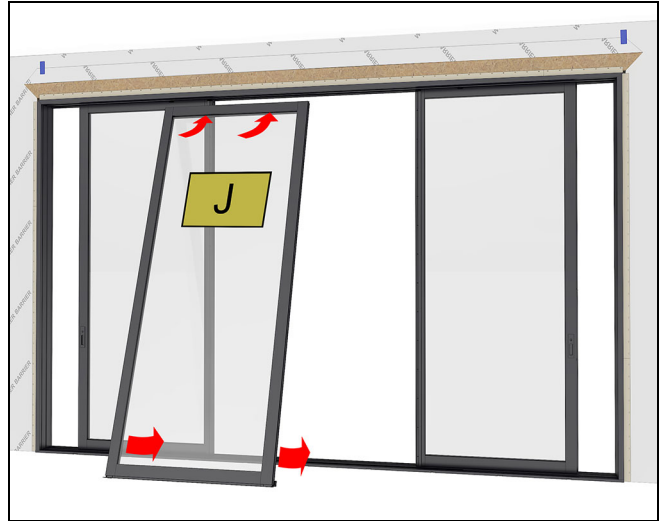
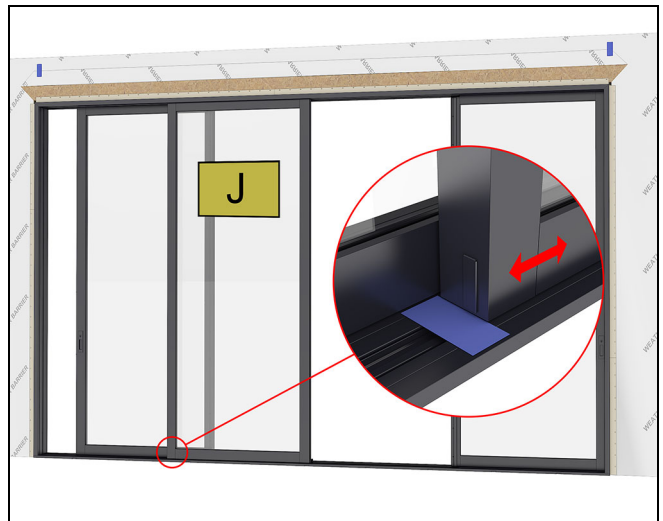

Figure 164 XOOX
Figure 165
8. Install the (J) stationary panel. Line up the left outside edge of the panel with the left mark made on the sill earlier in step 3 on page 49. See Figure 164 and Figure 165